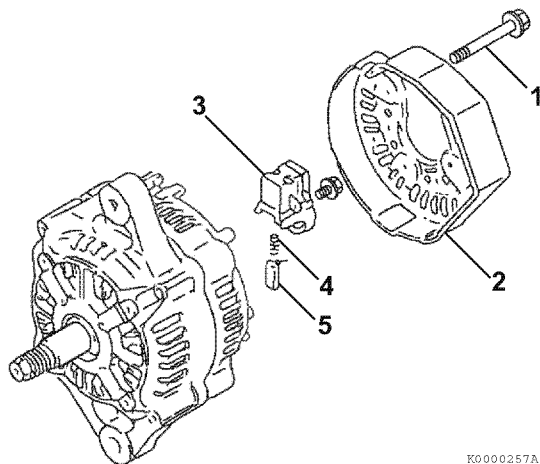

Figure 12-7
4. Remove the bolt retaining the regulator assembly (1, **Figure 12-7**) to the holder (2, **Figure 12-7**).
5. Remove the bolts retaining the holder (2, **Figure 12-7**) to the rear frame housing. Remove the holder.
6. Remove the nut (3, **Figure 12-7**) retaining the insulation bushing (4, **Figure 12-7**). Remove the insulation bushing.